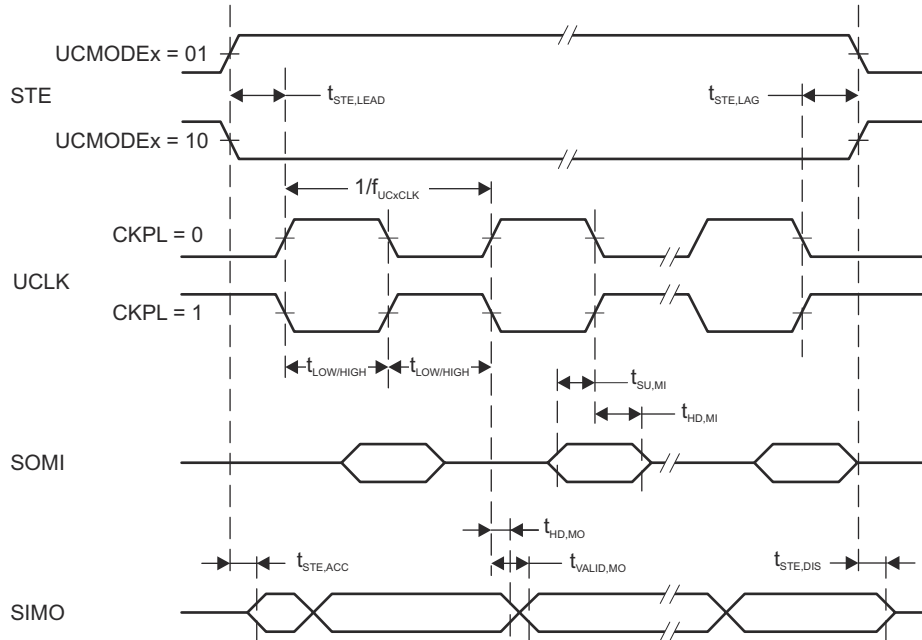
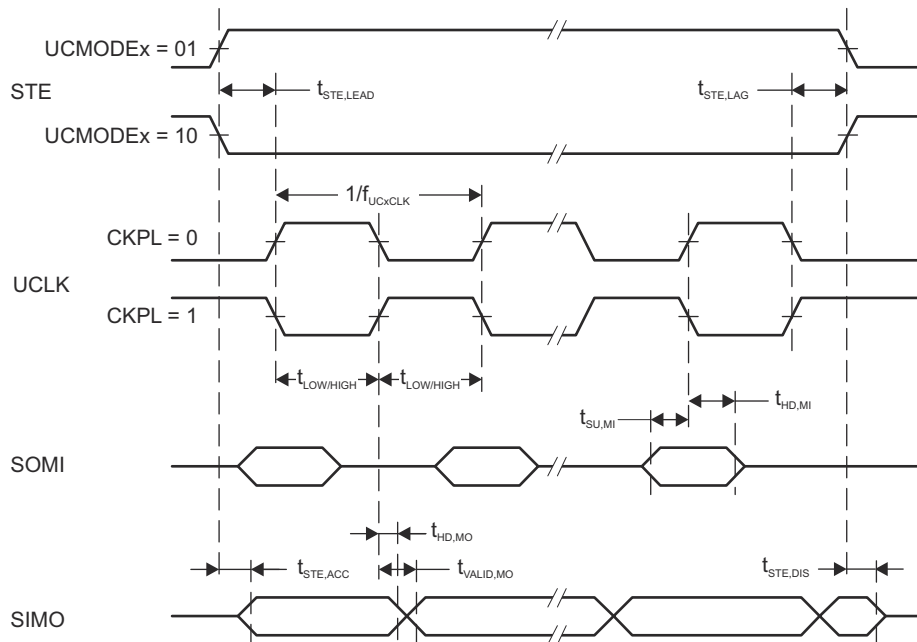

图 8-13. SPI Master Mode, CKPH = 0
图 8-14. SPI Master Mode, CKPH = 1
- (2) Specifies the time to drive the next valid data to the SIMO output after the output changing UCLK clock edge. See the timing diagrams in 图 8-13 and 图 8-14.
- (3) Specifies how long data on the SIMO output is valid after the output changing UCLK clock edge. Negative values indicate that the data on the SIMO output can become invalid before the output changing clock edge observed on UCLK. See the timing diagrams in 图 8-13 and 图 8-14.